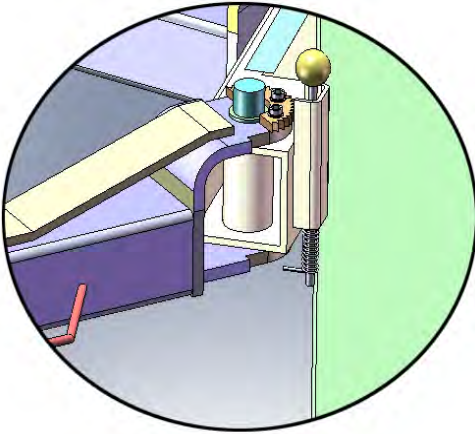

Fig. 20
1. Install the lifting arms (See Fig. 20).